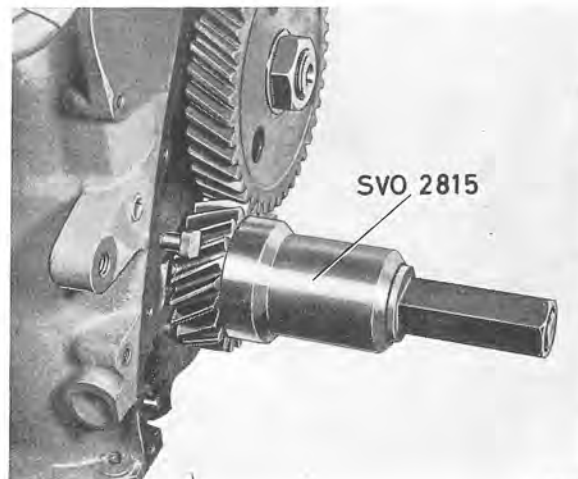

Fig. 2-42. Fitting crankshaft gear
6. Re-fit the crankshaft gear with tool 2815, see Fig. 2-42.